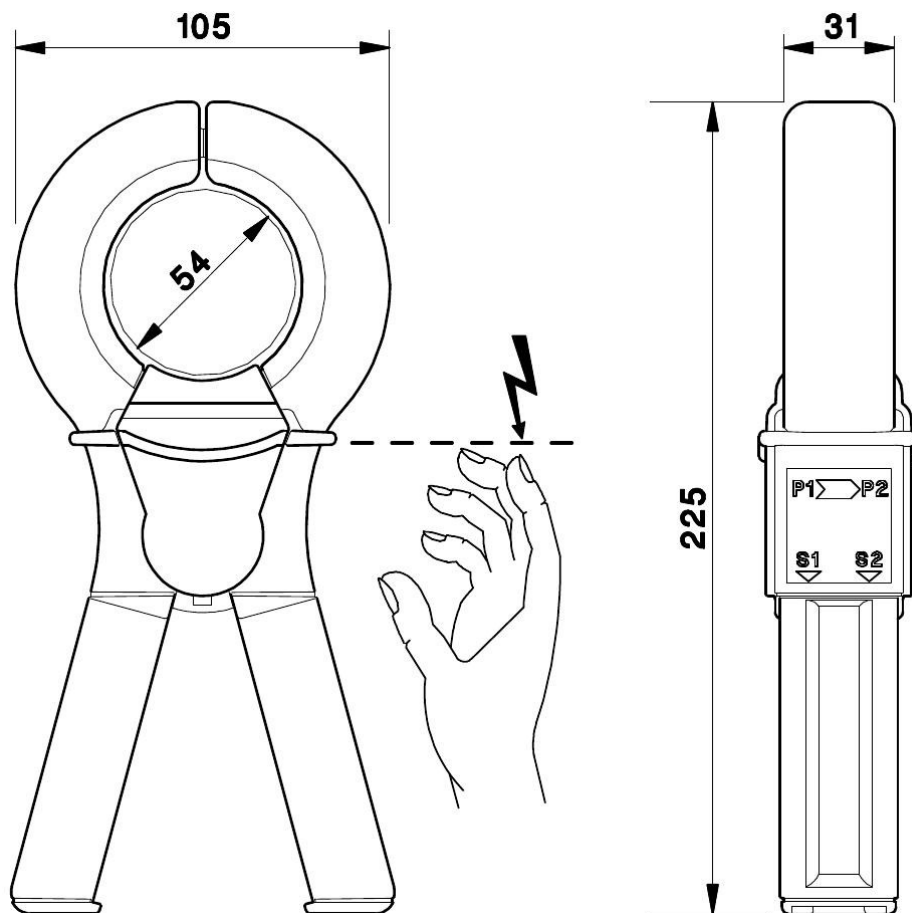

Figure 2.80: Dimensions in mm and protection against electric shock
- For protection against electric shock please refer to Figure 2.80 [→90]